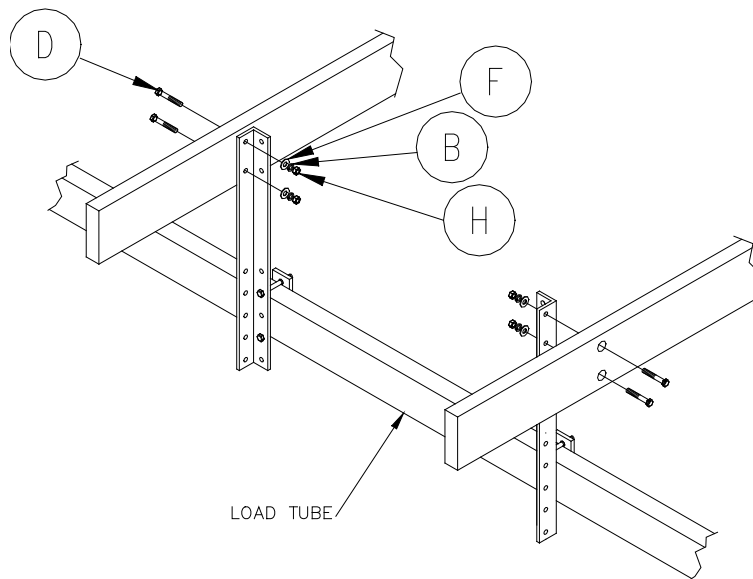

Figure 2-7.
4. **Refer to Figure 2-7.** Place two of the 2" x 6" x 16' pressure treated wood into the Mounting angles. Ensure that the ends of the wood are even with one another.